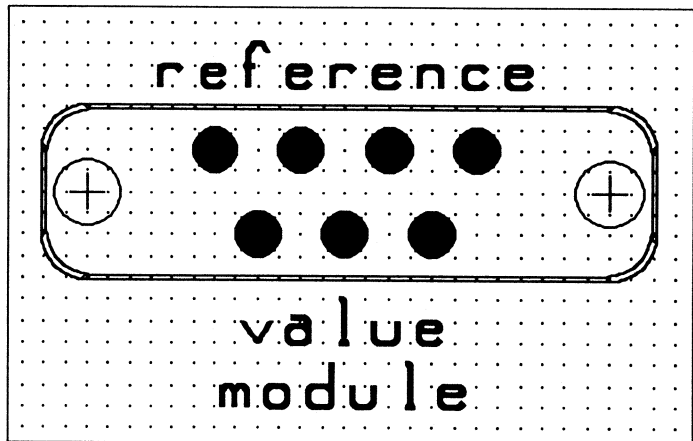

Figure 5-33. The positioned module placeholders.
4. Perform the same steps for "module" and "reference," placing them as shown in figure 5-33.